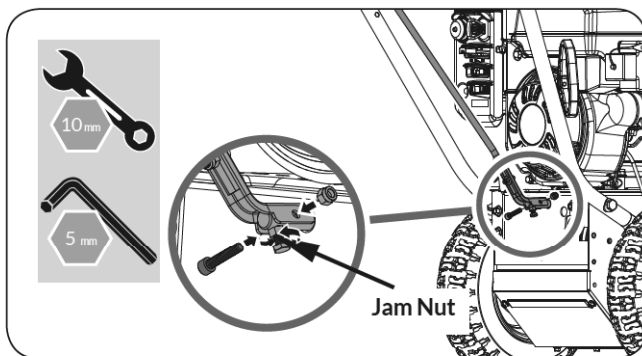

Figure 3
1. Secure shift lever to the shift arm with screw and nut, then loosen the jam nut several circles. (See **Figure 3**).